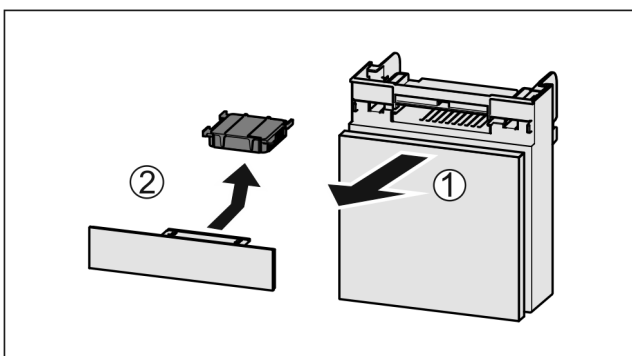

Fig. 165
- ▶ Pull out the compartment *Fig. 165 (1)*.
- ▶ Remove the carbon filter *Fig. 165 (2)*.